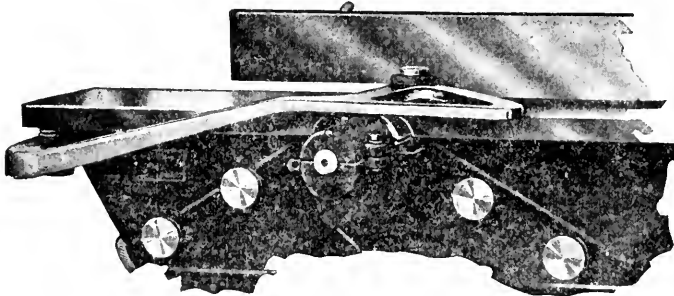

FIG. 3--JOINTER WITH FLAP GUARD.
6. **GENERAL--** The jointer, Fig. 3, also called buzz planer, may be used for quite a wide range of work if properly manipulated. Its original purpose was to plane a working face or to take wind out